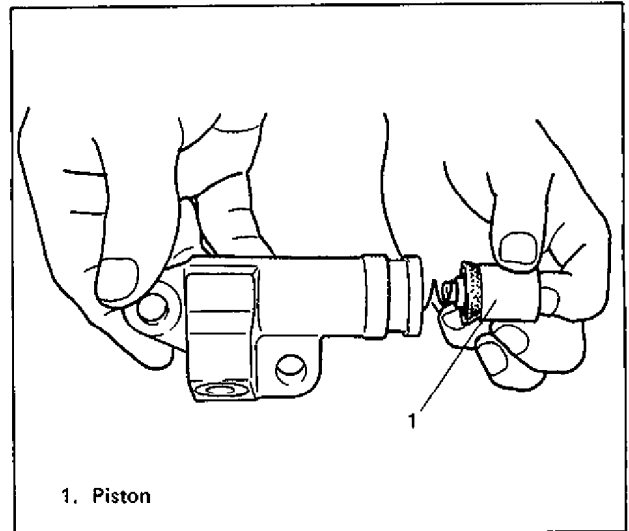

Fig. 7C1-8-3
- 1) Assemble piston referring to Fig. 7C1-8-1.